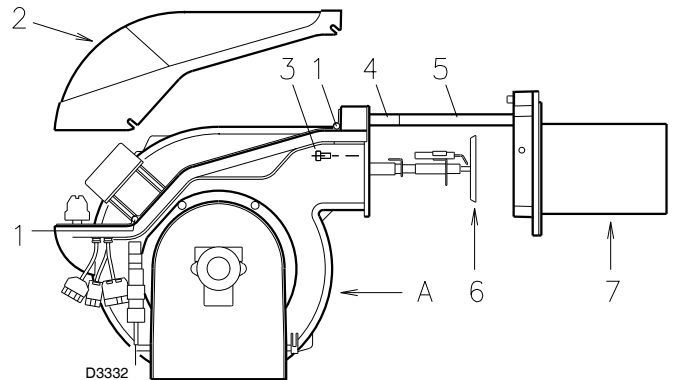

Fig. 30
- Loosen screws 1)(Fig. 30) and withdraw the cover 2).